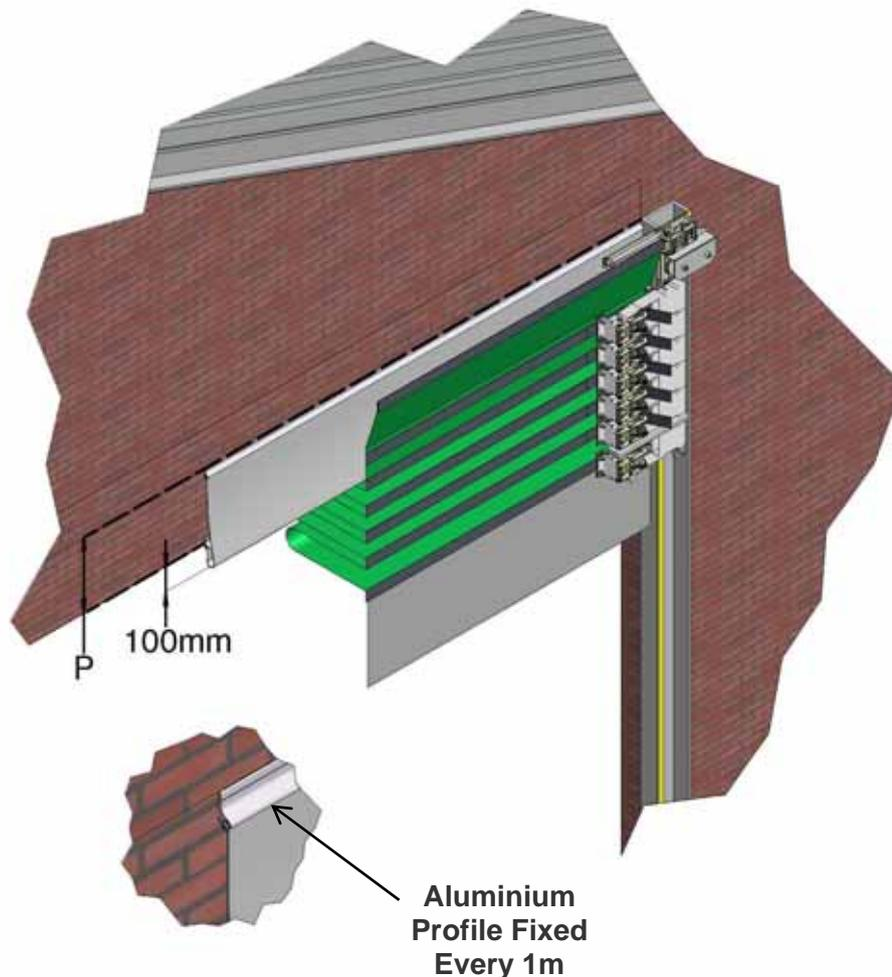

Figure 14
14. Galebreaker® Pelmet: If required it is fixed along the full width of the opening between the top of the tracking and the bottom edge of the cladding. The Pelmet material is secured in place with a 45mm high Aluminium profile along the top and bottom (Figure 14). This profile needs to be placed on a level surface with fixings at a maximum distance of 1m, ensure the building face conforms to these requirements
When ordering please supply height P as shown on Figure 14. Note that: